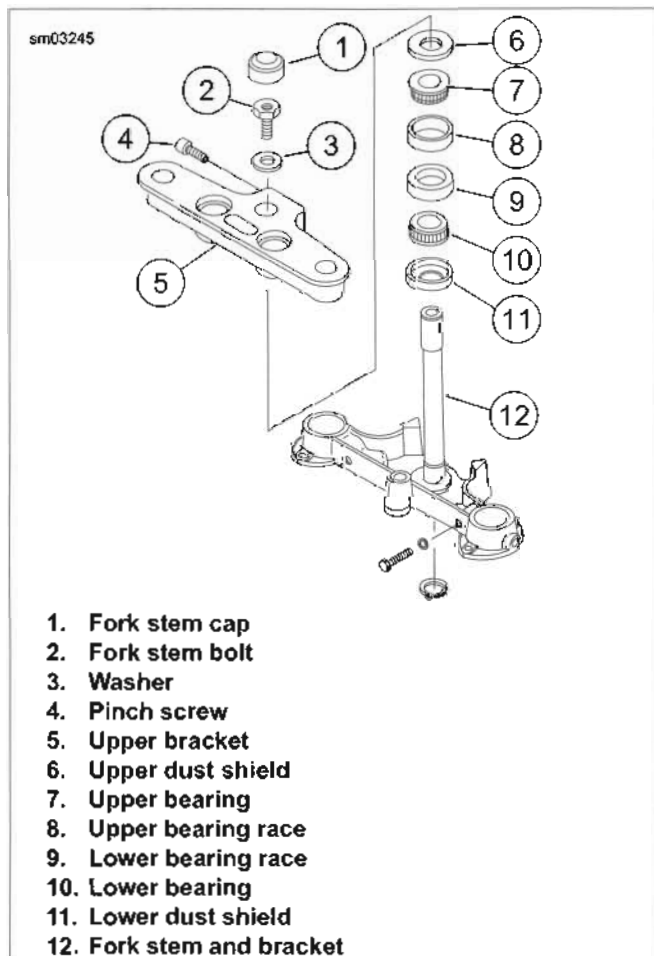

Figure 1-41. Steering Head: FLSTC, FLSTF/B, FLSTN, FLS
12. See Figure 1-41. Loosen the upper fork stem pinch screw (4).
14. See Figure 1-41. Adjust fall-away to specification:
- a. If the distance (fall-away measurement) exceeds 2.0 in (50.8 mm), loosen the fork stem bolt (2) slightly.
- b. If the distance (fall-away measurement) is less than 1.0 in (25.4 mm), tighten the fork stem bolt (2) slightly.